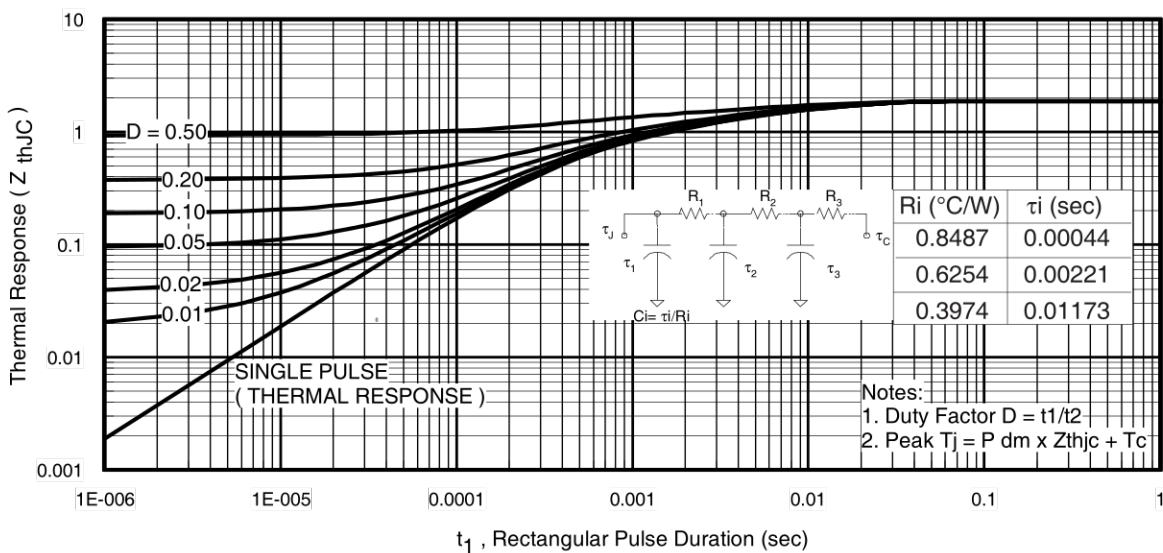
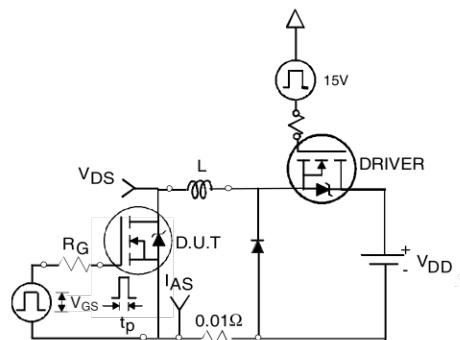

Fig 11. Maximum Effective Transient Thermal Impedance, Junction-to-Case
Fig 12a. Unclamped Inductive Test Circuit
- ① Repetitive rating; pulse width limited by max. junction temperature. (See fig. 11).
- ② Limited by $T_{J\text{max}}$, starting $T_J = 25^\circ\text{C}$, $L = 0.18\text{mH}$, $R_G = 25\Omega$, $I_{AS} = 31\text{A}$, $V_{GS} = 10\text{V}$. Part not recommended for use above this value.
- ③ $I_{SD} \leq 31\text{A}$, $di/dt \leq 840\text{A}/\mu\text{s}$, $V_{\text{DD}} \leq V_{(\text{BR})\text{DSS}}$, $T_J \leq 175^\circ\text{C}$.
- ④ Pulse width $\leq 1.0\text{ms}$; duty cycle $\leq 2\%$.
- ⑤ $C_{\text{oss eff.}}$ is a fixed capacitance that gives the same charging time as C_{oss} while V_{DS} is rising from 0 to 80% V_{DSS} .
- ⑥ Limited by $T_{J\text{max}}$, see Fig.12a, 12b, 15, 16 for typical repetitive avalanche performance.
- ⑦ This value determined from sample failure population. 100% tested to this value in production.
- ⑧ This is applied to D²Pak, when mounted on 1" square PCB (FR-4 or G-10 Material). For recommended footprint and soldering techniques refer to application note #AN-994.
- ⑨ R_θ is rated at T_J of approximately 90°C .
3. Equation below based on circuit and waveforms shown in Figures 12a, 12b.
- Z_{thJC}(D, t_{av}) = Transient thermal resistance, see figure 11)